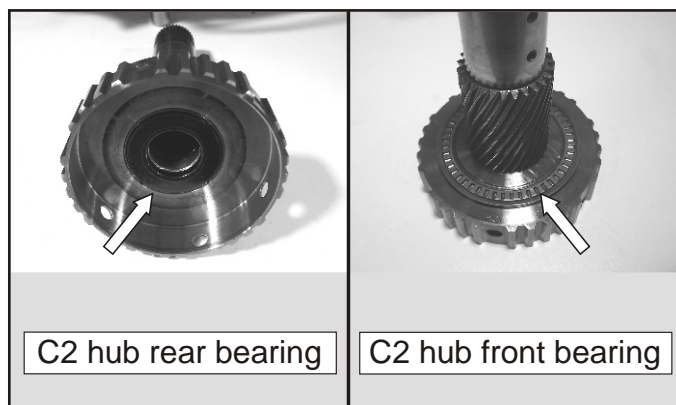

Figure 245
- 173. Install the C2 hub rear and front bearing with assembly lube to hold them in place as shown in Figure 245.